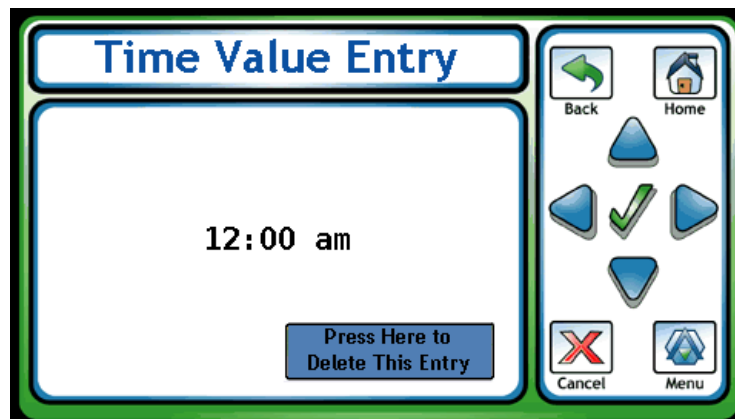

Figure 5-16 Editing a Time, Value Pair
5. From the time-value display, users with the appropriate permissions can modify an existing time & value pair by selecting the entry from the list and modifying the data accordingly. Options will exist to allow the user to delete the pair once selected, or simply modify the current information. To delete a time-value pair, simply touch the *Press Here to Delete This Entry* box once you have touched a targeted time-value pair (Figure 5-16).